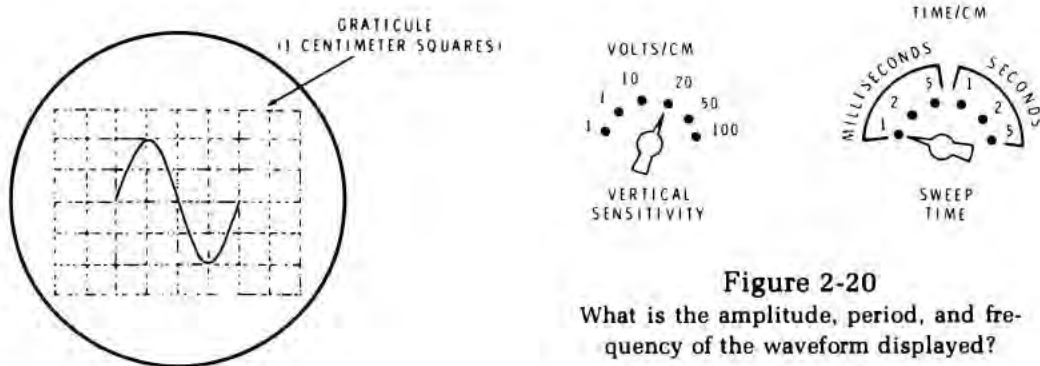

Figure 2-20
20. Refer to Figure 2-20. With the display and controls as shown, what is the waveform's peak-to-peak amplitude? _____